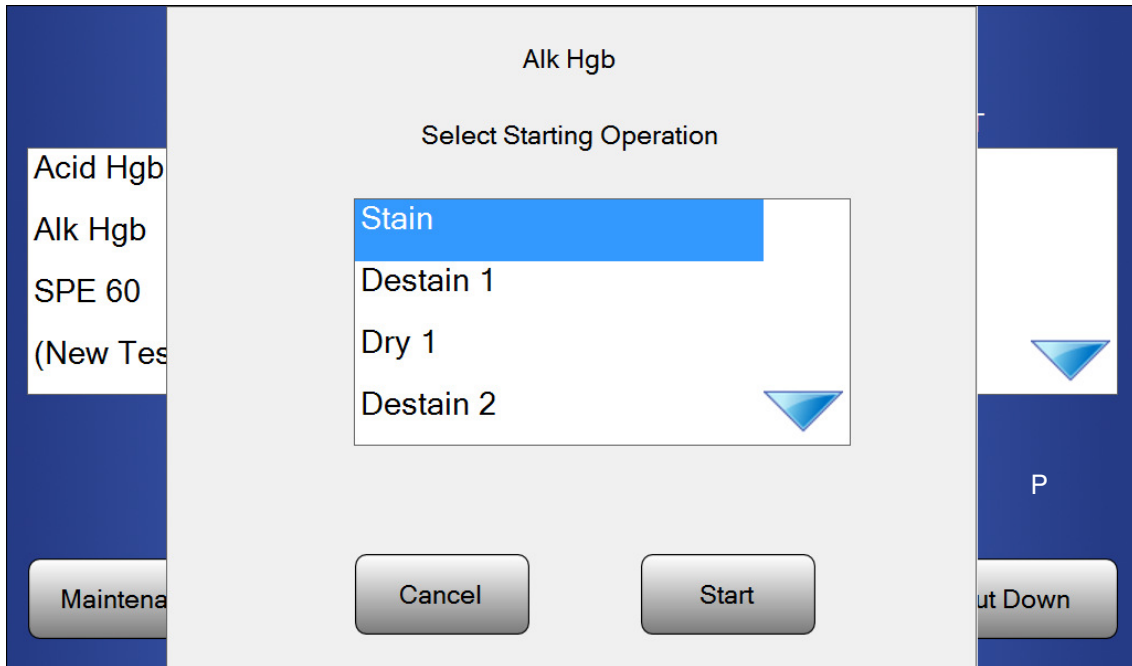

Figure 7-5 Select Test
1. To start a test at any operation during the test, press that operation when the Select Starting Operation Screen appears (Figure 7-5). To run the test in its entirety, press Start. The display shows the current operation and the instrument's status.